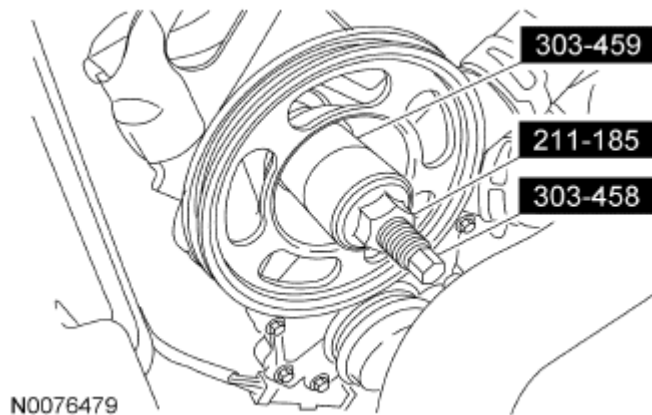

Fig. 356: Identifying Camshaft Pulley Installer, Power Steering Pump Pulley Installer And Water Pump Pulley Spacer
NOTE: Failure to use the correct special tools, assembled as shown in the Fig. 356, will result in damage to the coolant pump pulley and/or special tools.
81. Position the coolant pump pulley over the previously installed Camshaft Pulley Installer and on the end of the camshaft. Install the Camshaft Pulley Installer, Power Steering Pump Pulley Installer and the Water Pump Pulley Spacer as shown in the Fig. 356.